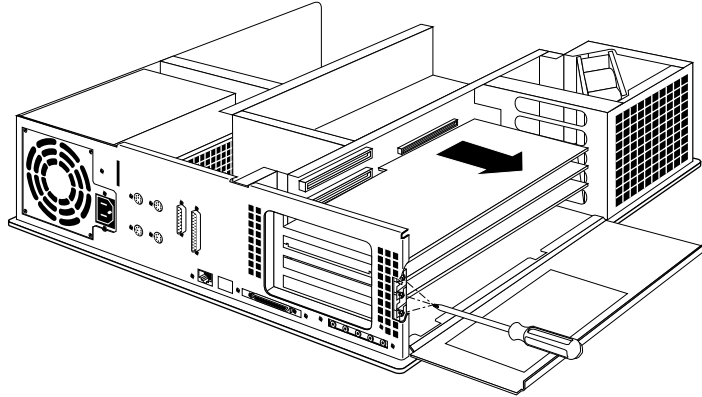

Figure 2-21 Removing the Screws Holding the Board Set
4. Remove the screws attaching the board set to the workstation slots as shown in Figure 2-21.